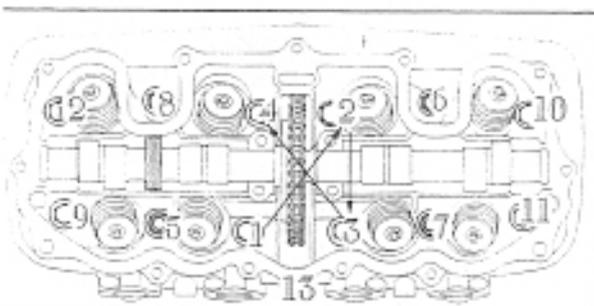

Fig. 3-20 Cylinder head nuts tightening sequence
- Apply a coat of engine oil to the threads of the nut and tighten the nuts in a criss-cross pattern, starting at the internal one as shown in Fig. 3-20.